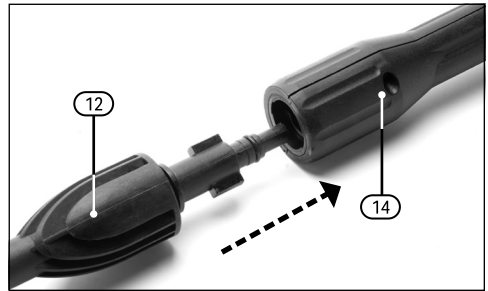
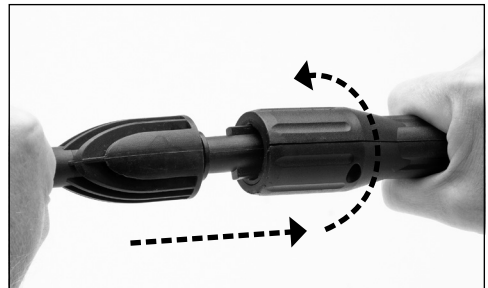

Fig. 5
Fig. 6
6.3 Fitting the Lance (Fig 5 – Fig.6)
- Connect the bayonet fittings of the lance (12) onto the trigger assembly section (14).